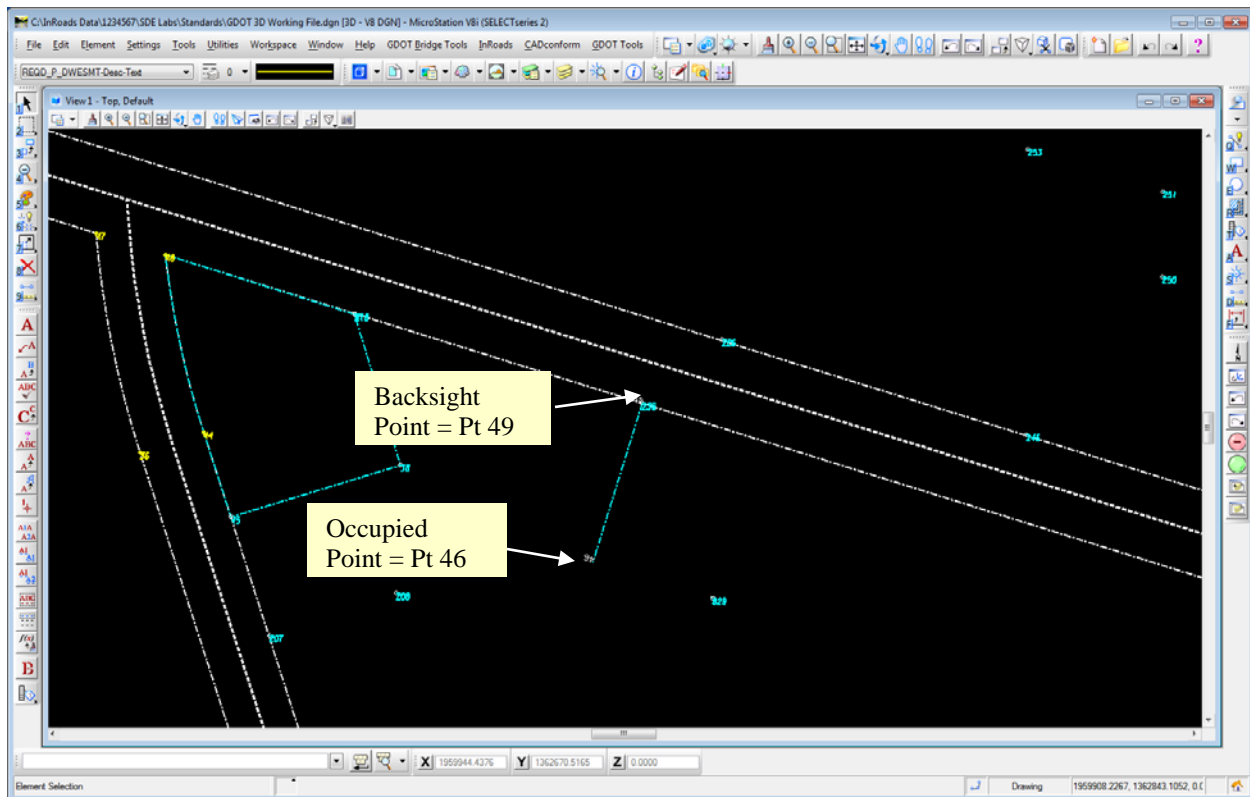

Figure L14-13 MicroStation Window
- Left Click on Point **49** located where **SV62** intersects the existing R/W as shown in *Figure L14-13* and identified as Backsight Point = **Pt 49**. It highlights with a purple hour glass.
- Left Click on the point identified in *Figure L14-13* as Occupied Point = **Pt 46**. It will highlight with a purple hourglass.